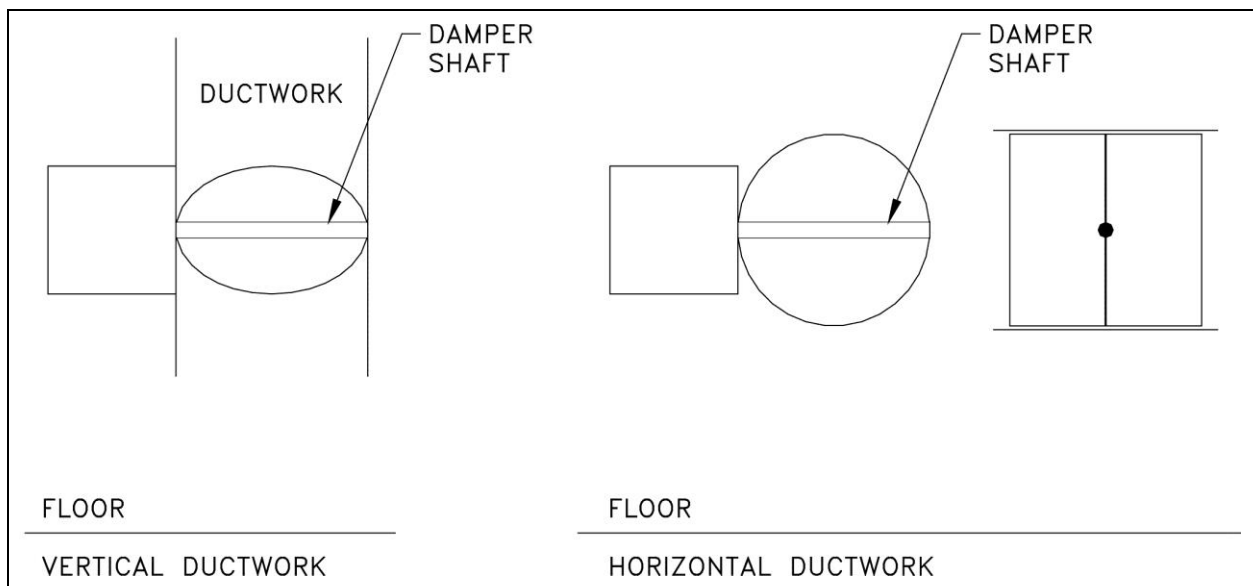

Figure 13: Proper Damper Mounting
2. The damper must be installed with the damper shaft parallel to the ground (Figure 13).